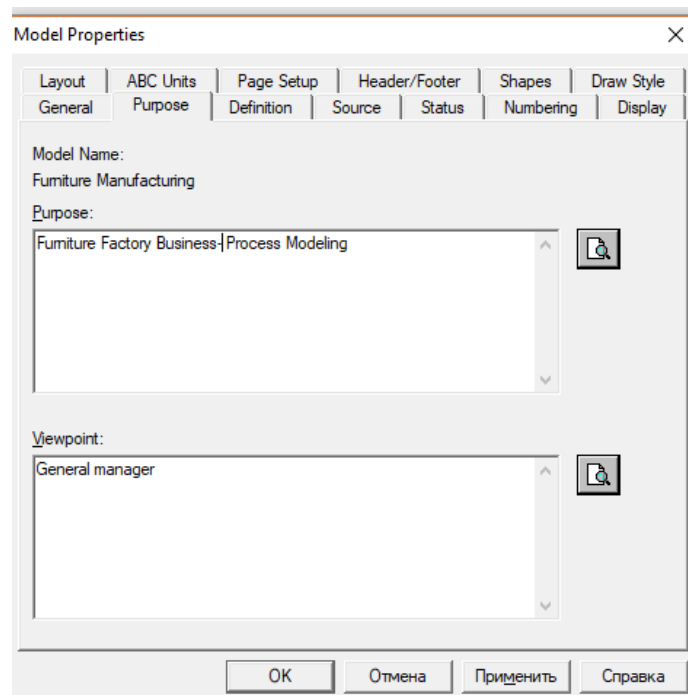

Fig. 3.7. The Model Properties Dialog
1. Select the menu tab **Model - Model Properties** which starts the dialog **Model Properties** (fig. 3.7);